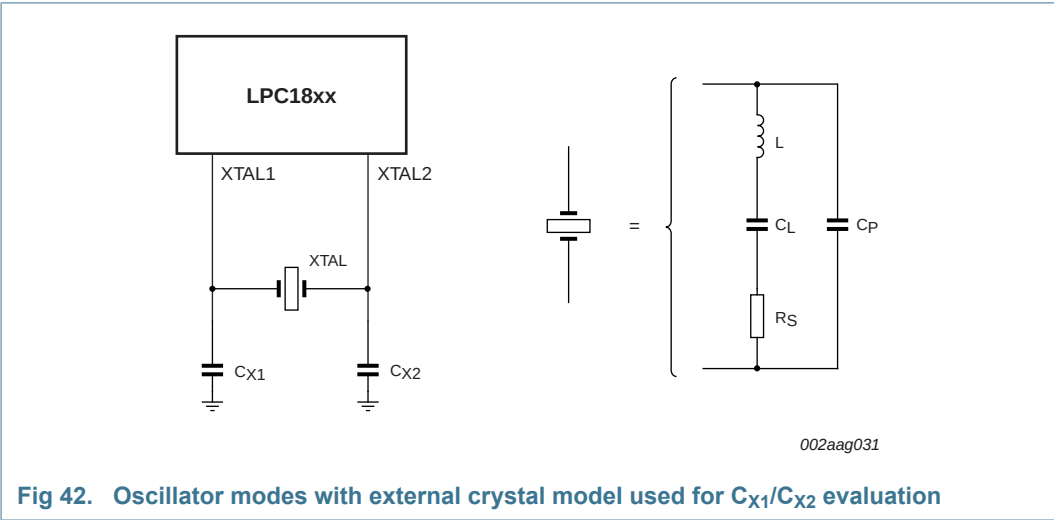

Fig 42. Oscillator modes with external crystal model used for CX1/CX2 evaluation
- External components and models used in oscillation mode are shown in Figure 42, and in Table 42 and Table 43. Since the feedback resistance is integrated on chip, only a crystal and the capacitances  $C_{X1}$  and  $C_{X2}$  need to be connected externally in case of fundamental mode oscillation ( $L$ ,  $C_L$  and  $R_s$  represent the fundamental frequency). Capacitance  $C_P$  in Figure 42 represents the parallel package capacitance and must not be larger than 7 pF. Parameters  $F_C$ ,  $C_L$ ,  $R_s$  and  $C_P$  are supplied by the crystal manufacturer.